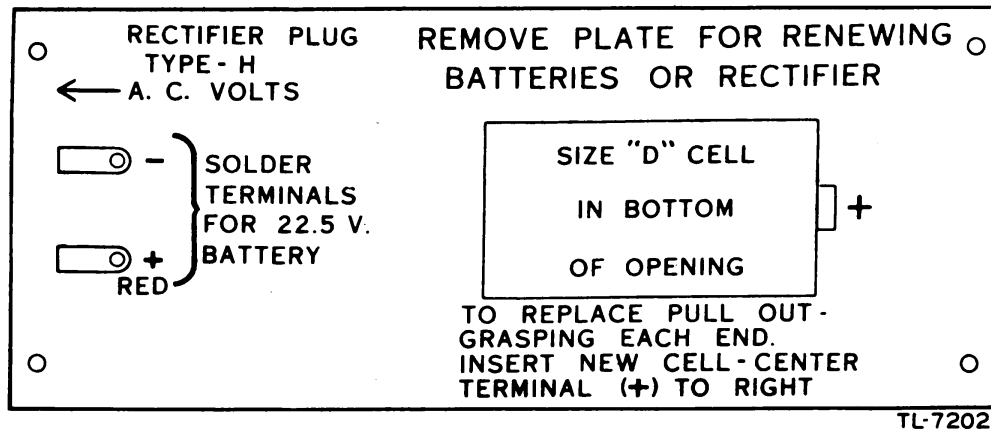

FIG. 21. MODEL 104 AND MODEL 1183-SC COMBINATION TESTER, BATTERY REPLACEMENT PANEL
b. Battery Replacement. Instructions for replacing batteries are printed on the panel (fig. 21). As the batteries drop in potential because of use or age, the OHMS ADJUST. control must be turned closer to 100 for a zero adjustment. When the meter pointer cannot be brought to 0 on the upper scale of the ohmmeter with the test leads shorted together (on any one of the ohmmeter ranges), the battery serving that range should be replaced. Do not replace batteries until the battery clips have been inspected. A poor battery connection may give the same indication as a bad battery. Batteries are replaced as follows: